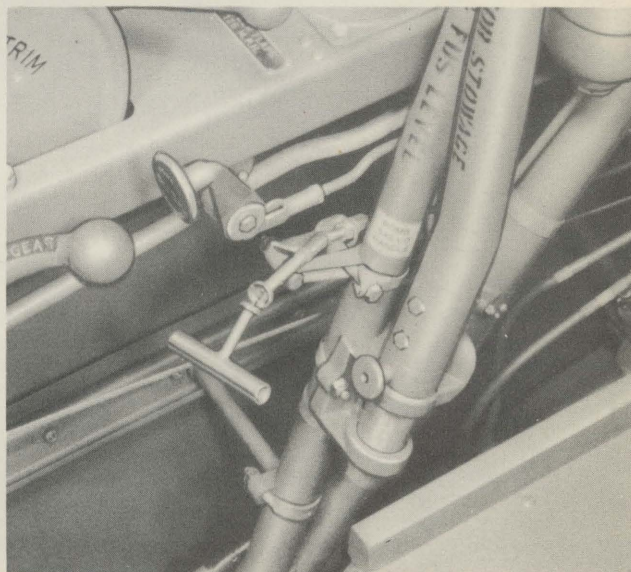

FIG. 17—BOMB SALVO RELEASE HANDLE
The release handle, when at LOCK position, locks the entire system and will prevent release, either electrically or manually, of all bombs. The handle must be moved to SELECTIVE position before electrical release can be accomplished. In moving the release handle to SALVO, all bombs are dropped simultaneously, either in the ARMED or SAFE condition according to the setting of the arming handle and the electrical toggle switches on the control panel. Provision is also made for a release handle in the rear cockpit (See figure 17) beneath the control shelf on the left side, which will only SALVO all bombs. This is for use in an emergency and will release bombs either in the SAFE or ARMED condition, according to the position of the arming handle and the electrical toggle switches in the front cockpit. Two types of bomb racks may be installed, however, operation is identical for each.
(2) All bombs will drop simultaneously, either in the ARMED or SAFE condition according to the setting of the arming handle on the bomb control quadrant and the position of the NOSE FUSE switch on the pilot's electrical control panel, at the time the release is effected.
(3) A release handle in the rear cockpit, beneath the control shelf on the left side, will only SALVO all bombs (figure 17.) This is for use in an emergency and will release bombs either in the SAFE or ARMED condition, as above.